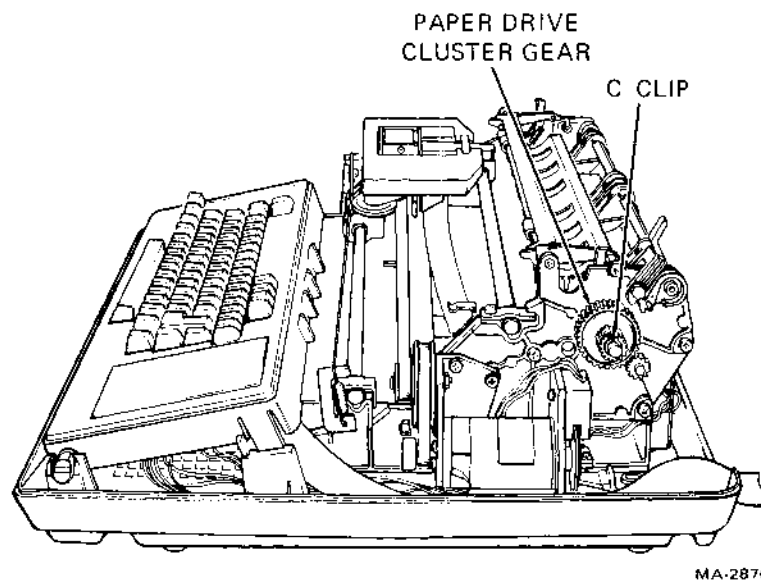

Figure 7-14 Paper Drive Cluster Gear Removal
2. Using retainer clip pliers, remove the C clip that secures the paper drive cluster gear (Figure 7-14).